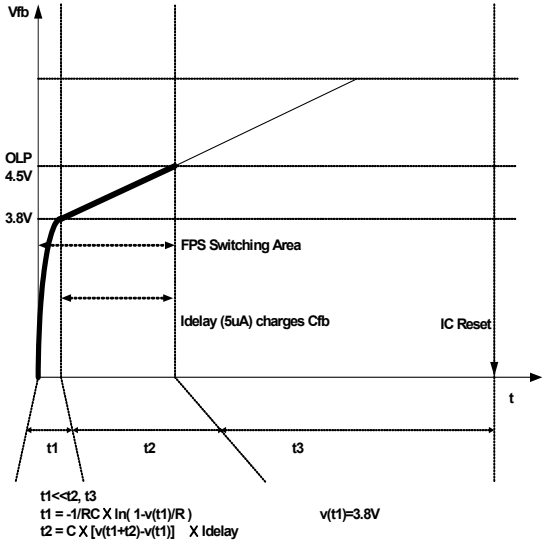

Figure 8. Over Load Protection Delay
4.1 Over Load Protection (OLP) : Overload is a load current that exceeds a pre-set level due to an abnormal situation. If this occurs, the protection circuit should be triggered to protect the SMPS. It is possible that a short term load transient can occur under normal operation. If this occurs, the system should not shut down. In order to avoid false shut-downs, the over load protection circuit is designed to trigger after a delay. Therefore the device can discriminate between transient overloads and true fault conditions. The device is pulse-by-pulse current limited and therefore, for a given input voltage, the maximum input power is limited. If the load tries to draw more than this, the output voltage will drop below its set value. This reduces the opto-coupler LED current, which in turn, will reduce the photo-transistor current. Therefore, the 400uA current source will charge the feedback pin capacitor, Cfb, and the feedback voltage, Vfb, will increase. The input to the feedback comparator is clamped at around 3.8V. Therefore, once Vfb reaches 3.8V, the device is switching at maximum power. At this point the 400uA current source is blocked and the 2.5uA source continues to charge Cfb. Once Vfb reaches 4.5V, switching stops. Therefore the shutdown delay time is set by the time required to charge Cfb from 3.8V to 4.5V with 2.5uA, as shown in Figure 8.